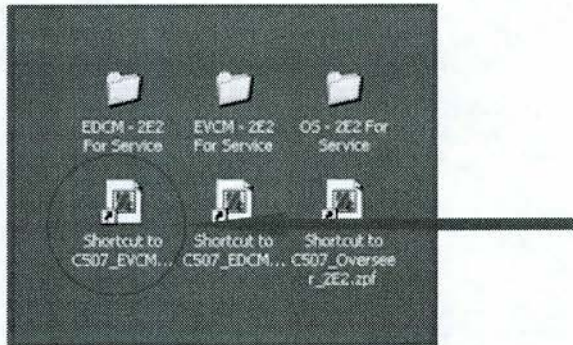

Figure 8
2.2 Double click the "C507_EVCM_2E2" shortcut (arrow Figure 8) on the computer's desktop to open the calibration tool.